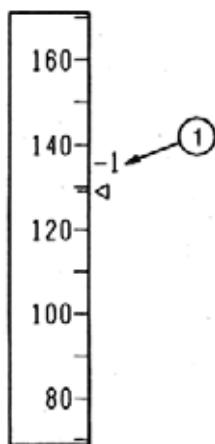

Figure 2-54
- 1L V1** - Data entry is for display purposes only, however, V1 is displayed on the SRS of the PFD if this data is omitted. V1 is represented by a BLUE - 1 moving along the SRS of the PFD. (See **(1)**, Figure 2-54.) If no data has been entered when the flight phase transitions to PREFLIGHT, dashes are displayed. Data cannot be entered after the flight phase transitions out of PREFLIGHT. Entry attempts cause display of the SP message, "NOT ALLOWED".